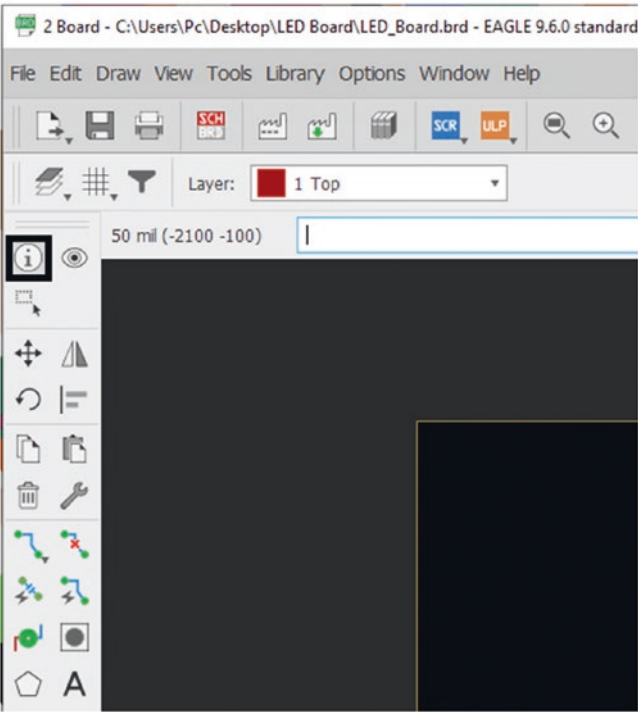

Figure 5-54. Select the “Info” button
- 3. Once the Board Layout window is open, click the “Info” button. See Figure 5-54.